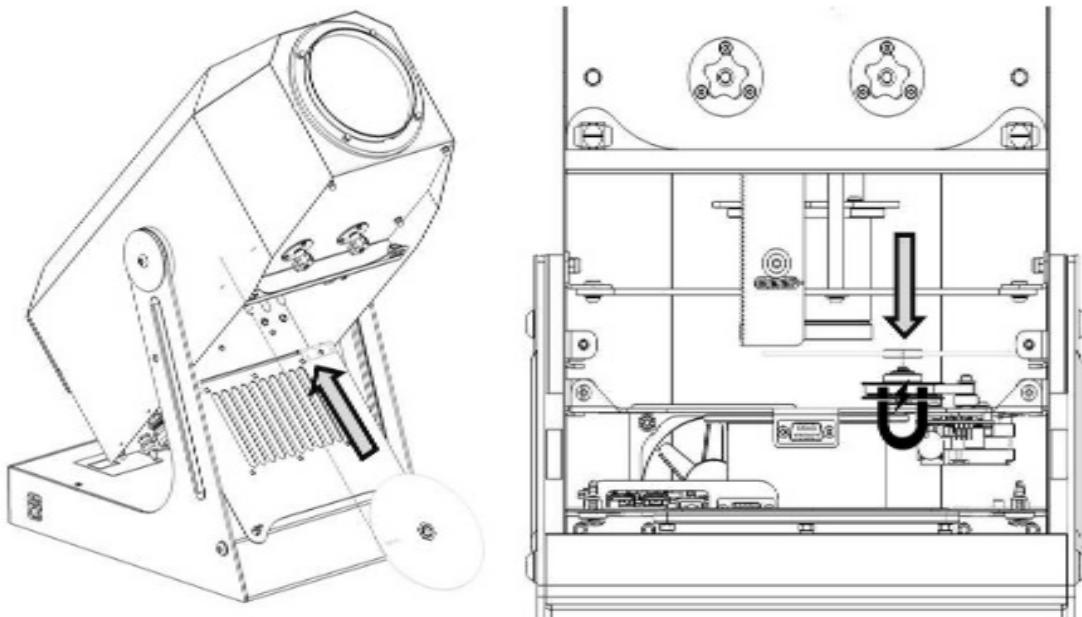

Fig.12
2. Position component 2 on component 1 so that the metal washer of the wheel rests on the flat and magnetic part of the pulley.(Fig.12)